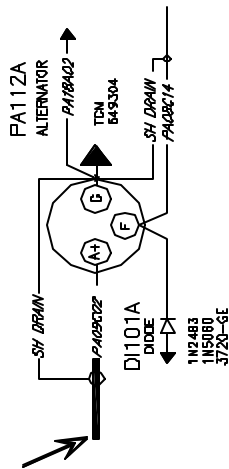

FIGURE 2
3. SEE FIGURE 2 OF THIS SERVICE INSTRUCTION FOR INSPECTION OF ALTERNATOR WIRING FOR CHAFING OR DETERIORATION
FIGURE/TABLES: SEE FIGURE 1 AND FIGURE 2 ON FOLLOWING PAGE.